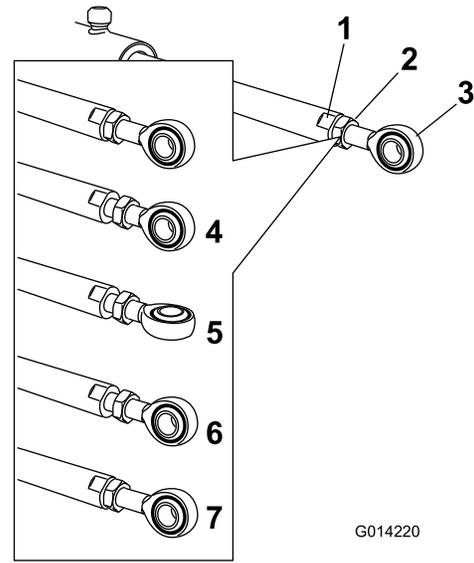

Figure 14
5. Use a wrench on the flat sides of the actuator rod to immobilize it, then loosen the jam nut to allow the eyelet rod to be manipulated (Figure 14).
6. Turn the eyelet rod in the actuator rod to shorten or lengthen the extended actuator to the desired position (Figure 14).